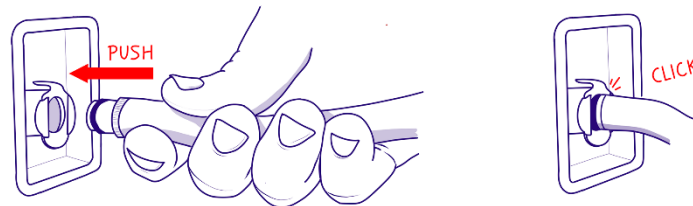

Figure 6 – Emptying tank kit
4. Connect the emptying tank kit supplied to the emptying valve placed in the frontal part of the instrument (see Figure 6).